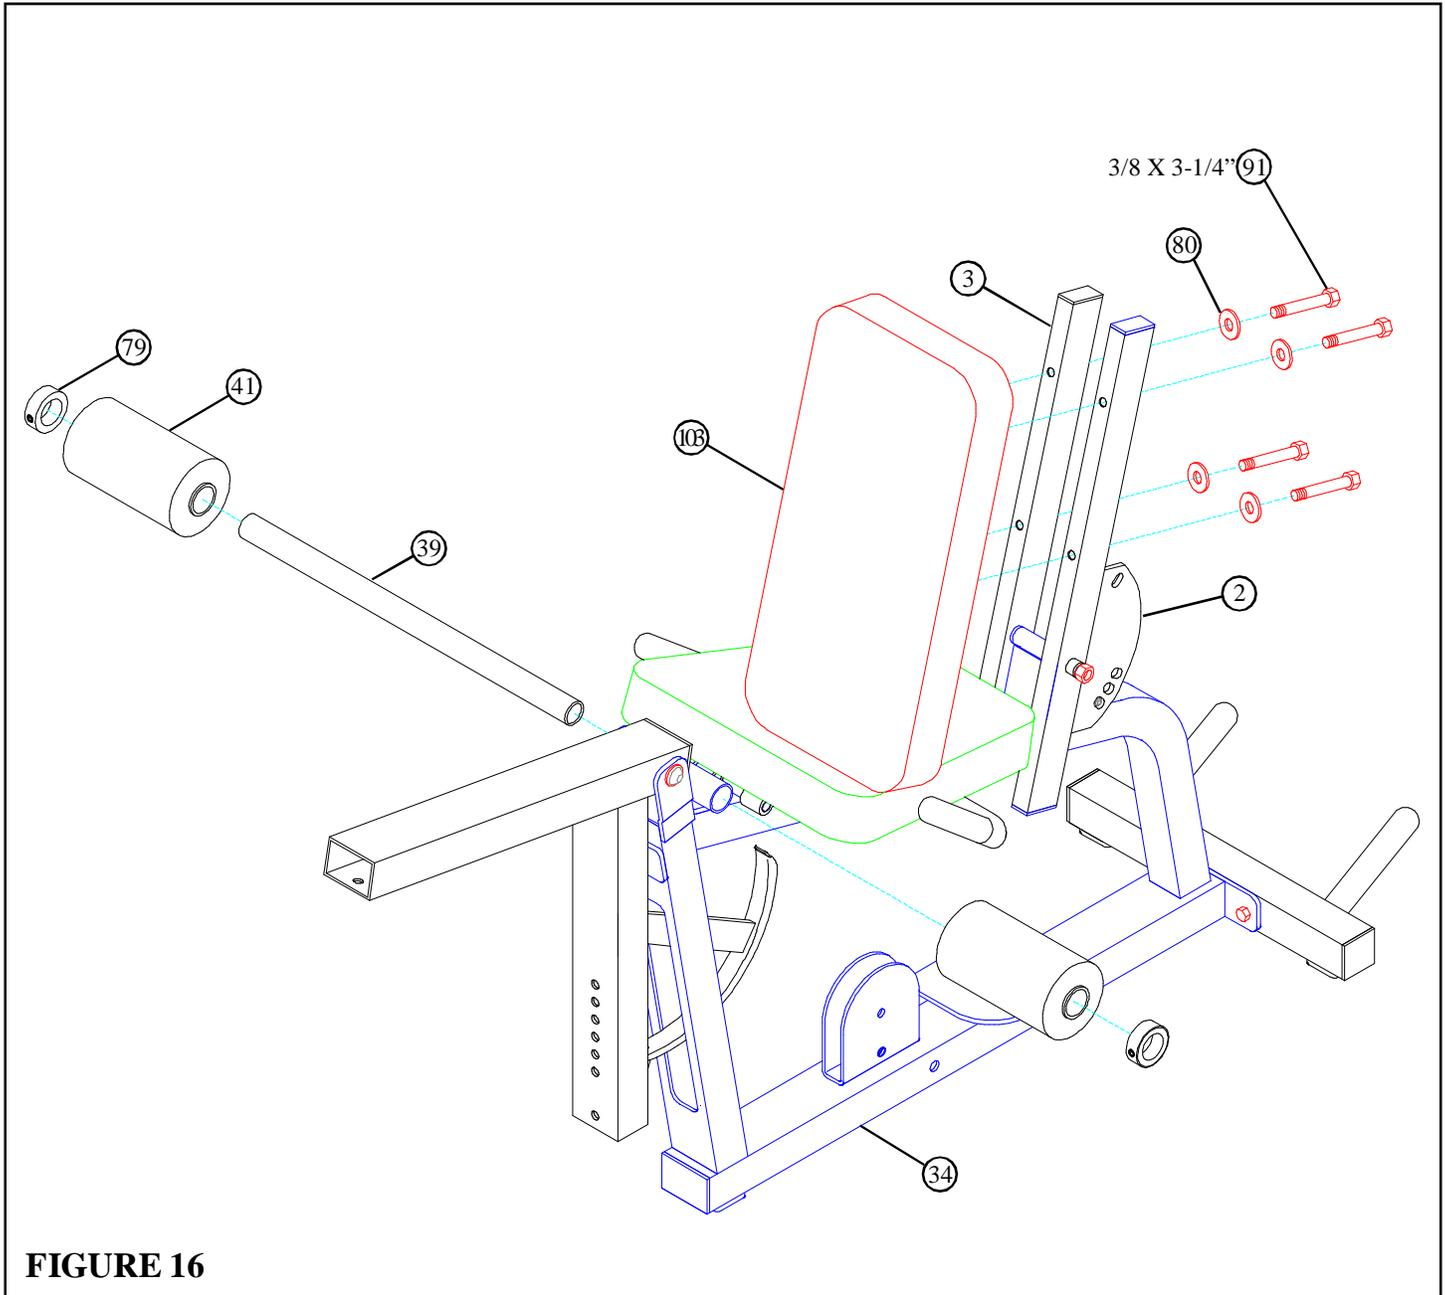

FIGURE 16
- **SECURELY** assemble the LEG BACK PAD (103) to the LEG BACK PAD ADJUST (2) and the LEG BACK PAD SUPPORT (3) using four 3/8 X 3-1/4" BOLTS (91) and four 3/8" WASHERS (80). See FIGURE 16.
- **SECURELY** assemble two 4 X 7" ROLLER PADS (41) to the LEG FRAME (34) using one 19-1/4" TUBE (39) and two 1-5/16" SHAFT COLLARS (79). **SECURELY** tighten set screws on SHAFT COLLARS (79). See FIGURE 16.
- Assemble four ROLLER PADS (41) to the PAD SLEEVES (33) using four 1-5/16" SHAFT COLLARS (79). **SECURELY** tighten set screws on SHAFT COLLARS (79). See FIGURE 16.